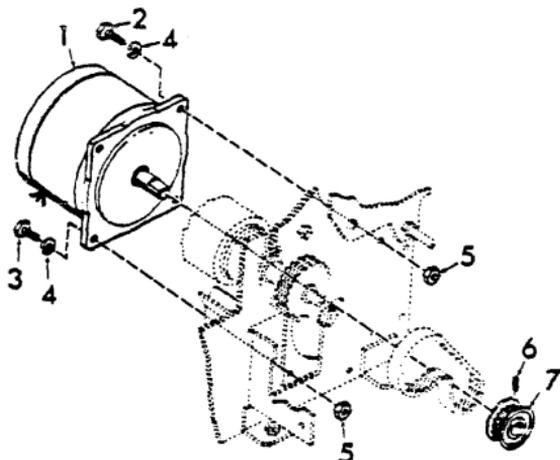

Figure 12
- Disconnect two pin connector P028 of stepper motor assembly from connector J028. (See following page, Figure 12).